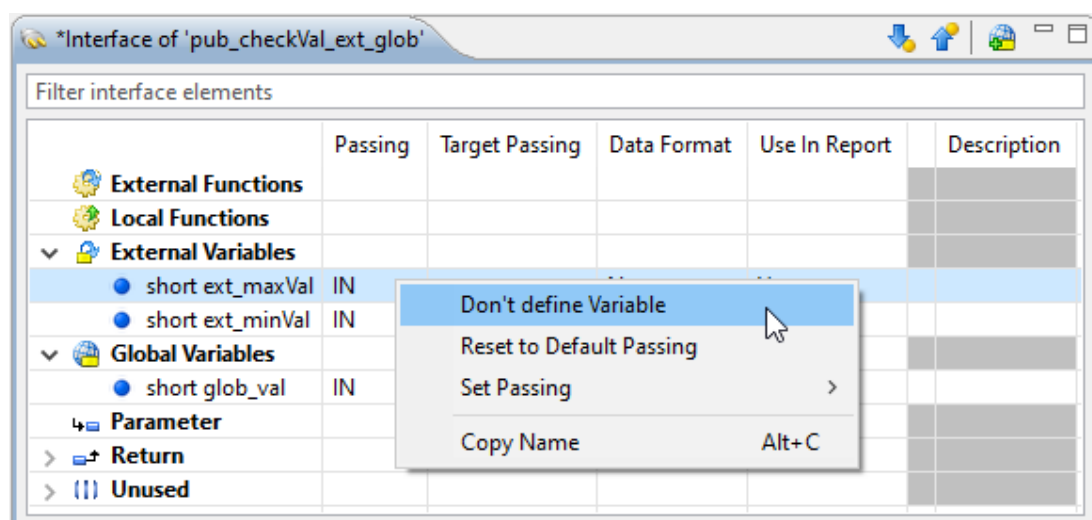

Figure 6.162: Undefining an external variable
- Right-click the respective variable to open the context menu (see figure 6.162).